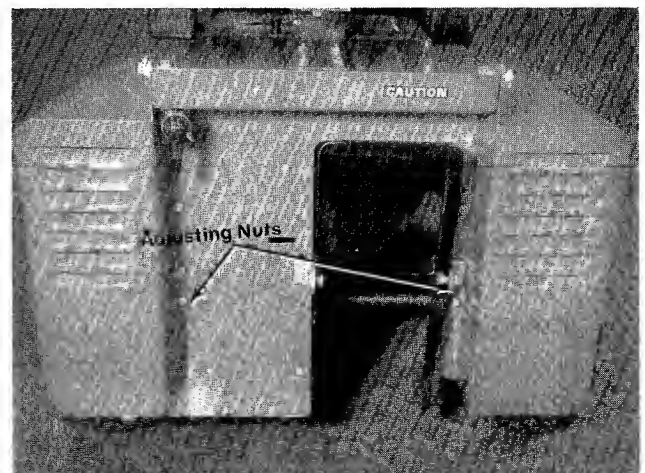

FIGURE 31.
2. Tighten the adjusting nuts as shown in figure 31 until you have the proper tension.